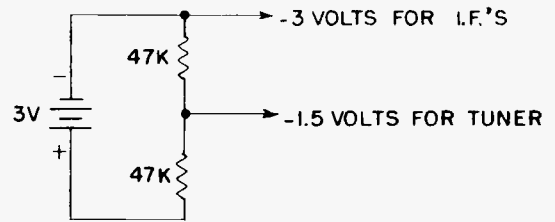

Fig. 4 Bias Supply
3. Apply -3 volts bias to point "A" as shown in Fig. 17. A simple bias source is shown in Fig. 4.